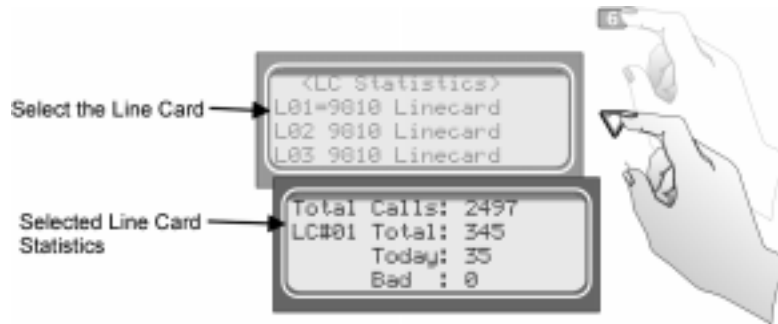

Figure 4-23 Line Card Statistics Display
2. Select **6** for LC Statistics. See Figure 4-23.
3. Select the number of the line card you wish to view. See Figure 4-23.